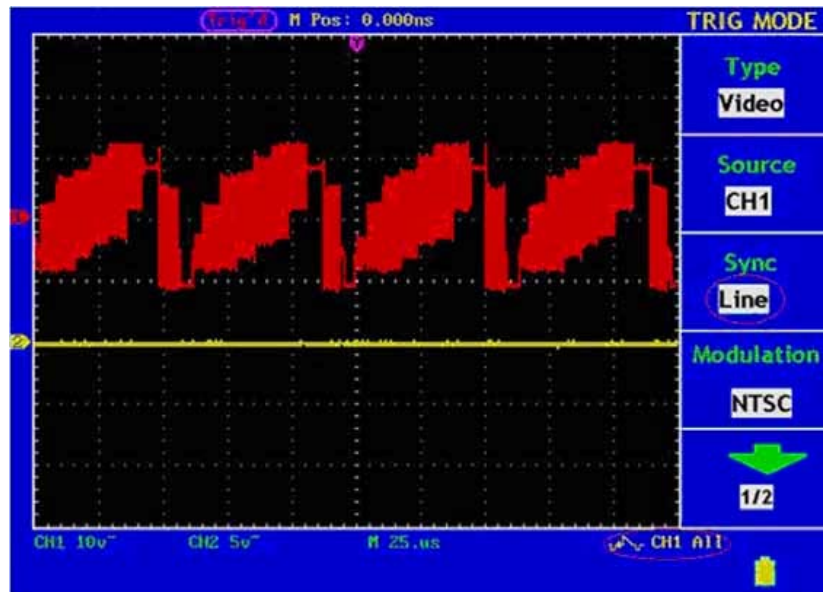

Fig. 64 Wave Form Obtained from the Video Line Trigger
5. Adjust the **VOLTS/DIV**, **VERTICAL POSITION** and **SEC/DIV** knobs to obtain the proper wave form display (see Fig. 64).